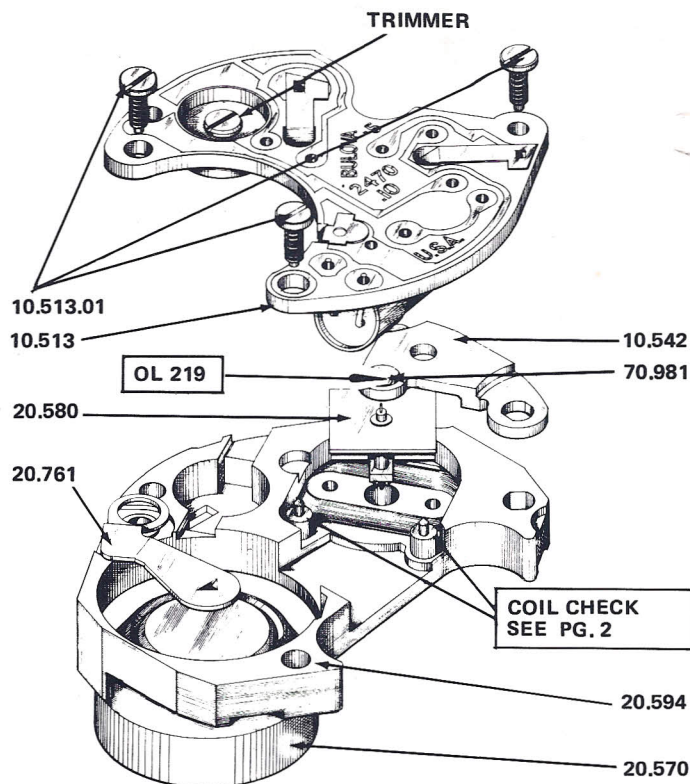

Fig. 11
**Step 3.** Touch either Meter Clip to the contact post shown in Fig. 11.
pin (Fig. 11).